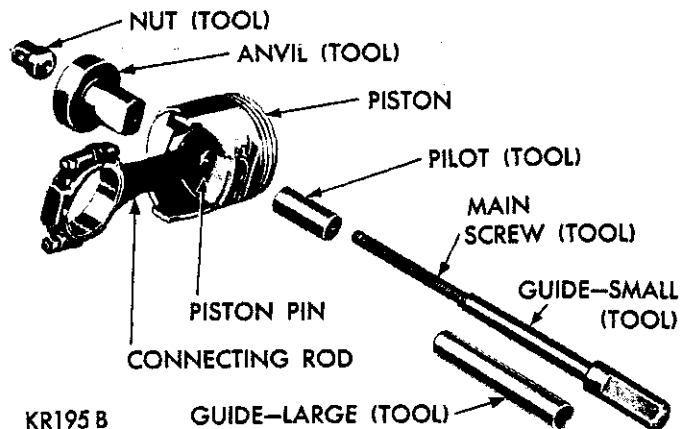

Fig. 38—Tool Arrangement for Removing Piston Pin and pilot in the anvil. Install piston pin over main screw.
(1) Arrange Tool C-3684 parts for removal of piston pin, (Fig. 38).
(2) Install pilot on main screw.
(3) Install main screw through piston pin.
(4) Install anvil over threaded end of main screw with small end of anvil against piston boss. **Be sure spring is removed from anvil.**
(9) Press piston pin in until piston pin "bottoms" on the pilot. This will position pin in connecting rod.
(10) Remove tool and arrange tool parts and piston assembly in same manner (Fig. 38).